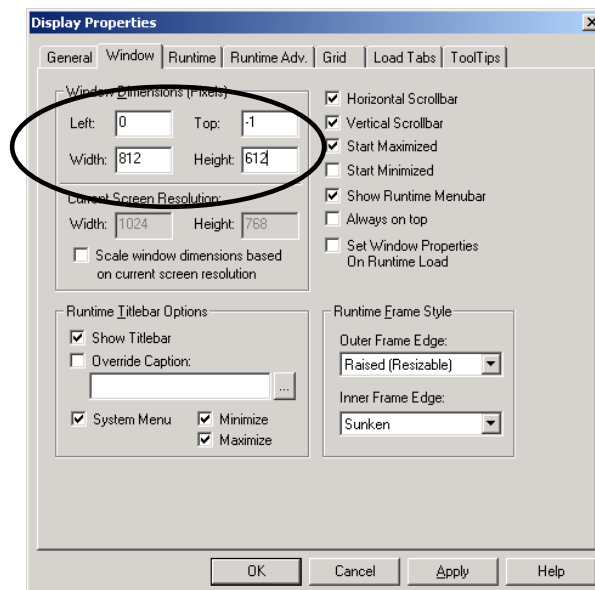

Figure 5.9
- On the **Windows** tab set the window dimensions and other properties as shown in **Figure 5.9**.